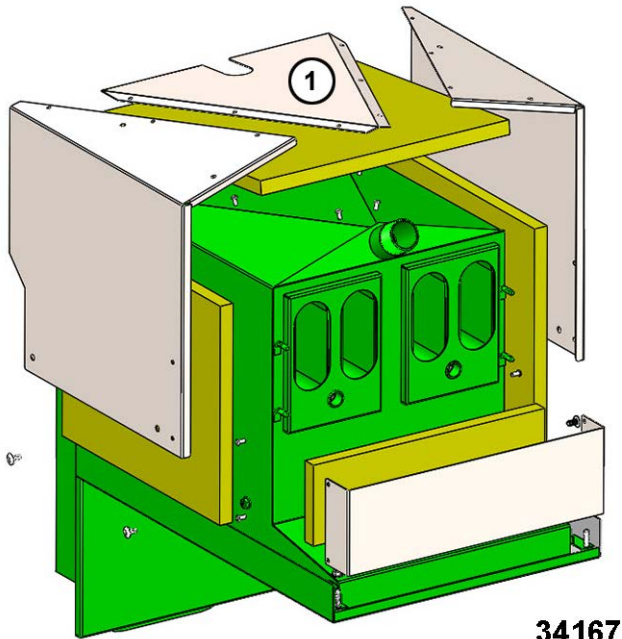
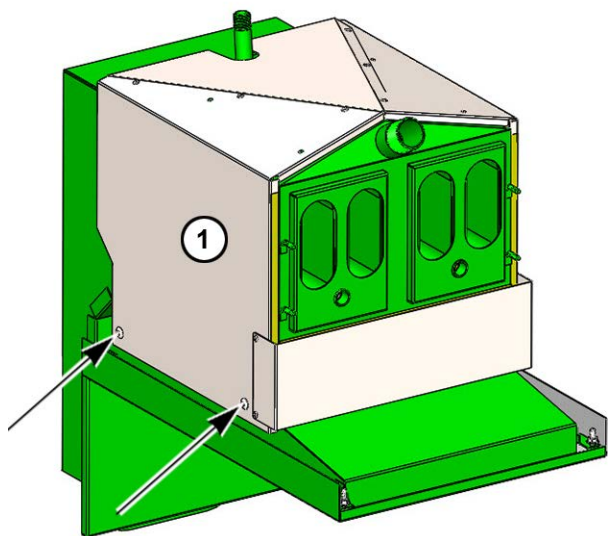

Fig. 56
Fig. 57
- A. Install insulation kit (1, in Fig. 56 and Fig. 57) by setting into place and riveting (3/16" blind rivets) sections to itself. Attach kit assembly to tank with four 1/4-20 x 3/8 truss head screws, two on each side.